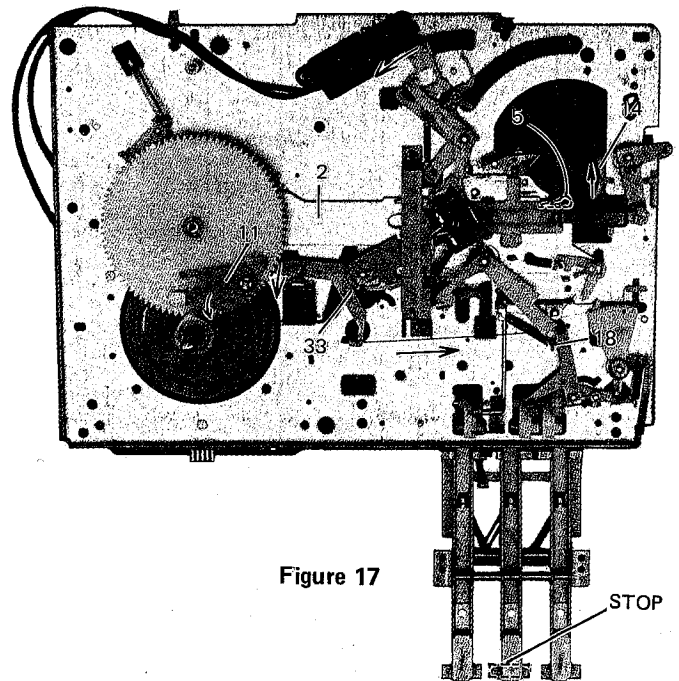

Figure 17
When the STOP button is pushed while playing, Relay-cut Lever (18) pulls Reject Lever (33) to push out Auto Clutch (11) and Pickup Arm returns in same action as Auto-out. (Figure 17)